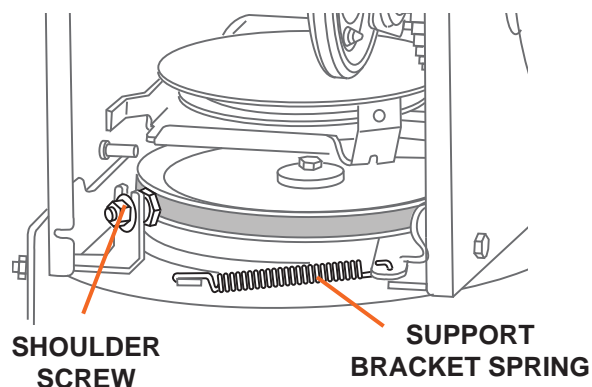

Figure 20
4. Loosen and remove the shoulder screw which restrains the belt from jumping off of the pulley. Unhook the support bracket spring from the frame (see Figure 20).